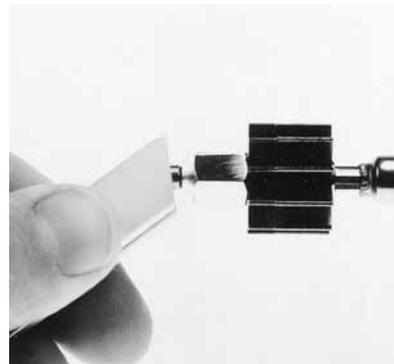

Fig 4. Tubing end pushed against the flat surface of the flanging tip.
6. Push the 1.5 mm of tubing onto the flanging tip projection and heat for about 5 seconds. Then push hard until the heated 1.5 mm of protruding tubing flares out against the flanging tip base (figure 4).